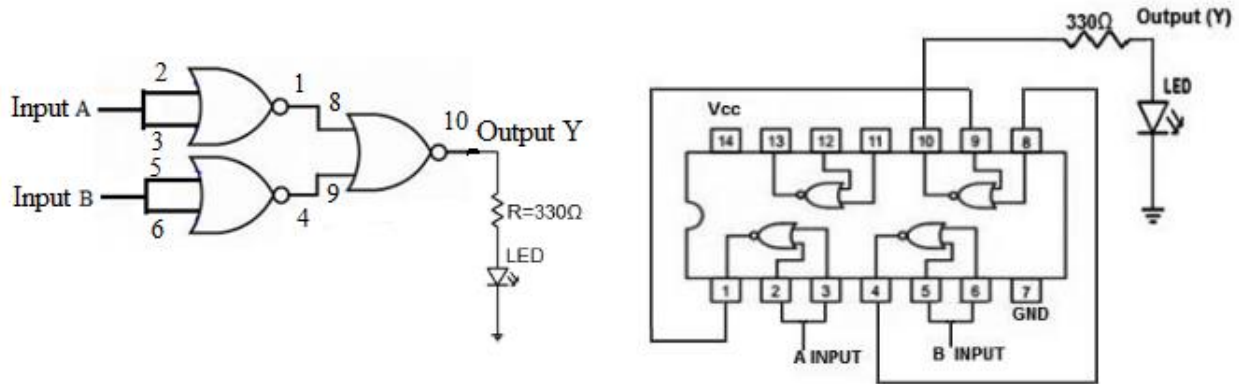

Figure 3.5 Logic diagram and IC Circuit diagram to verify AND operation using NOR gate IC 7402.
5. Make the connections as per the logic diagram given in Figure 3.5.